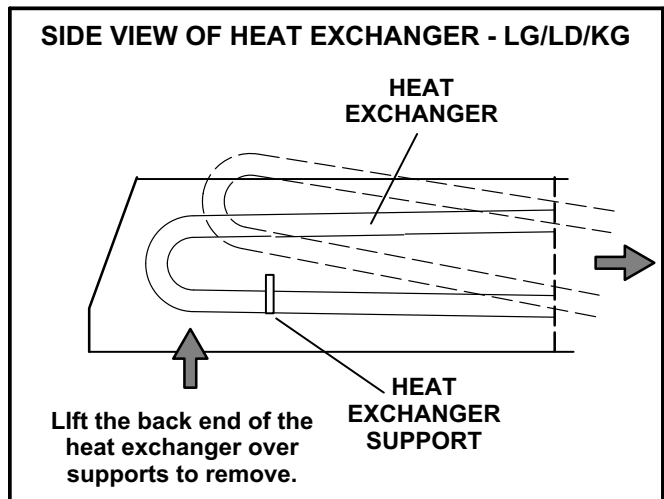

FIGURE 4
- 2- Lift the back end of heat exchanger over the top of the supports and slide exchanger slightly toward the front of the unit. See figure 4.
3- Remove the heat exchanger as shown in figure 4.
5- Remove the heat exchanger as shown in figure 4.